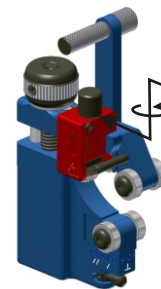

Fig.4c
3. Turn the tool around and secure the tool onto the shaved insulation. (Fig.4c)